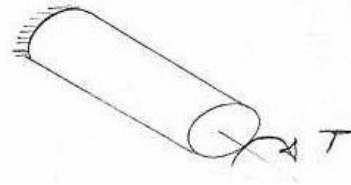

Fig.5:Members under Torque
2. Members under torque(see Fig.5). Strength and deformation of these members will be studied in Chapter 5.